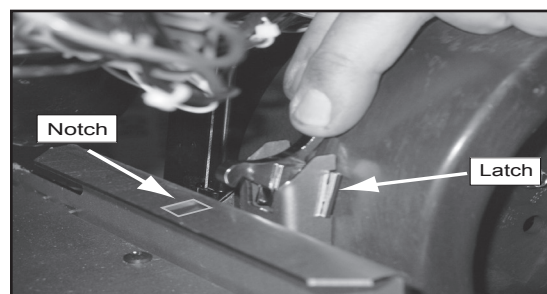

Figure 33.2
5. Reach behind the blower and release the latch by pushing the top of the latch towards the blower (**Figure 33.2**).